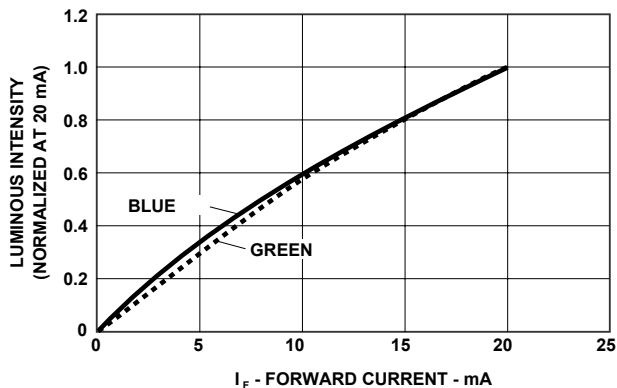

Figure 3. Relative Luminous Intensity vs. DC Forward Current.
Step 6: The luminous intensity at $T_A = 25^\circ\text{C}$ is determined from Figure 3.
From Figure 3, the relative luminous intensity factor at 17mA is 0.9.